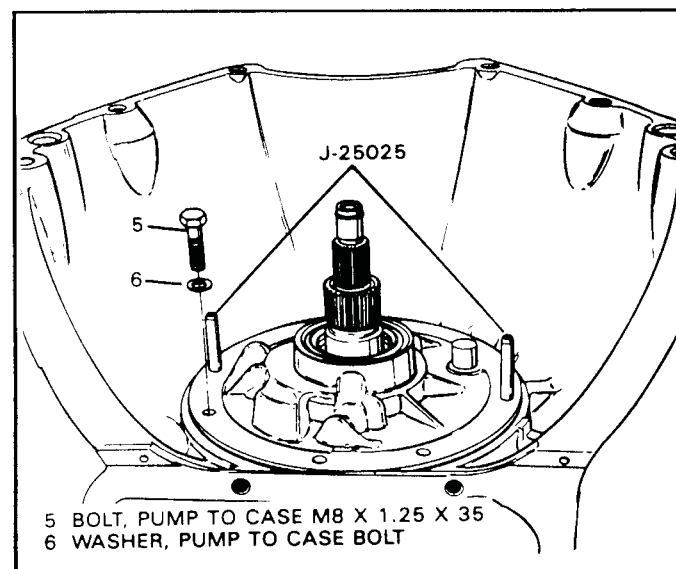

Figure 105
34. Install oil pump to case alignment pins, as shown in Figure 105.
37. Install the completed oil pump assembly into the case, over the alignment pins, as shown in Figure 105.
39. Replace alignment pins with bolts and with new washers, and torque bolts to 18 ft.lbs. (See Figure 105).